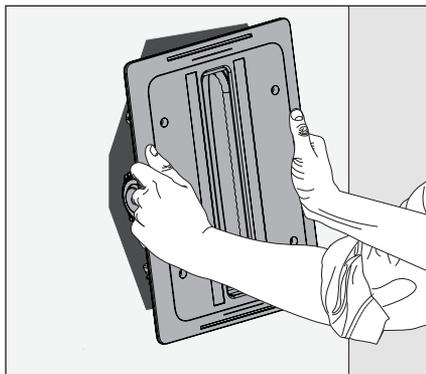

Fig. 3d
- 2) Gently position the assembly into the wall cavity (Fig. 3d).